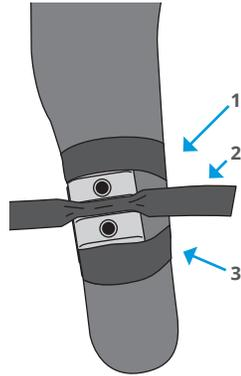

Figure 4
6. Cover with three strips of 1 in. (2.5 cm) carbon tape wrapped circumferentially in such a manner that the strips cover the grooves and the spirals (Figure 4).